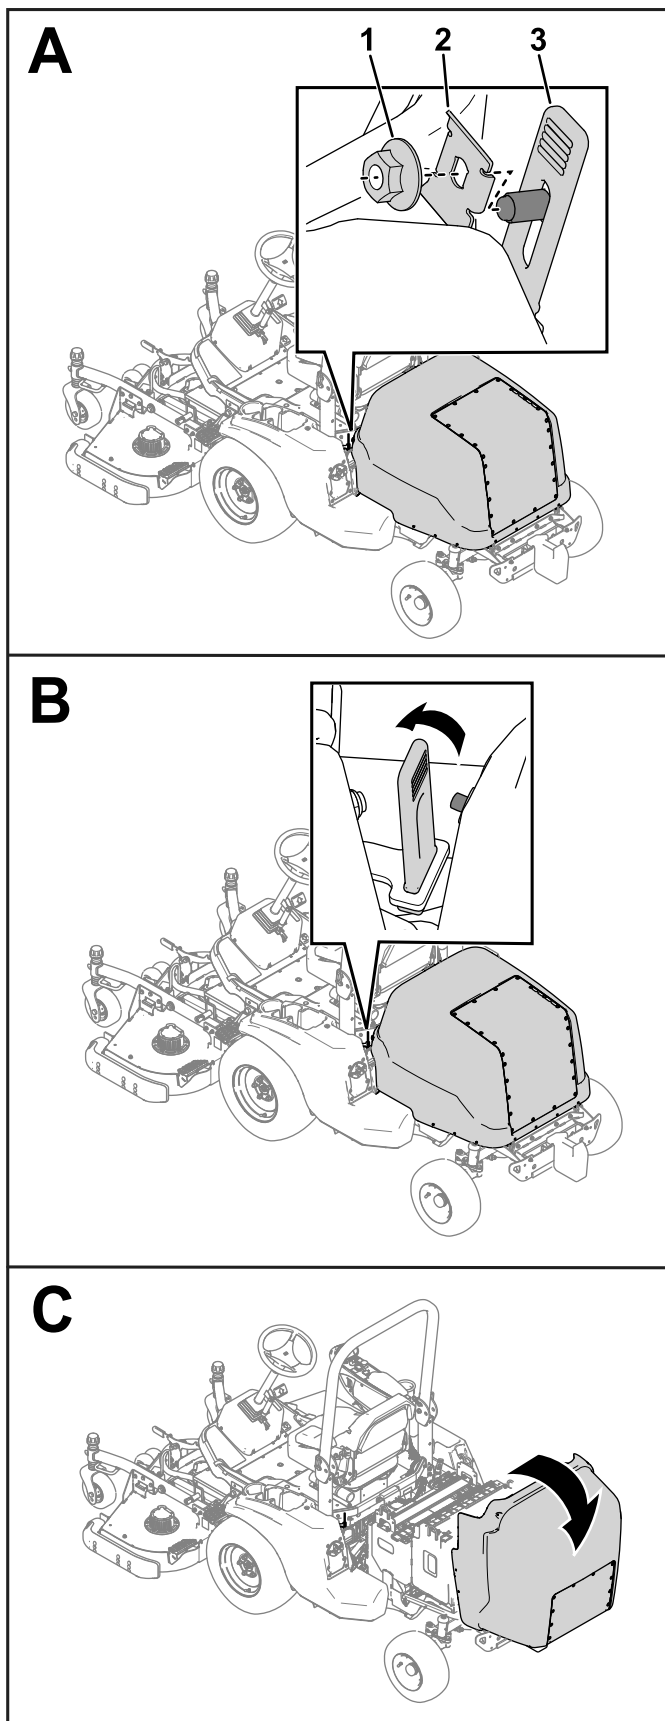

Figure 42
1. Remove the nuts and strap shields (Figure 42) from each side of the hood.
2. Release the straps from each side of the machine (Figure 42).
3. Raise the hood (Figure 42).